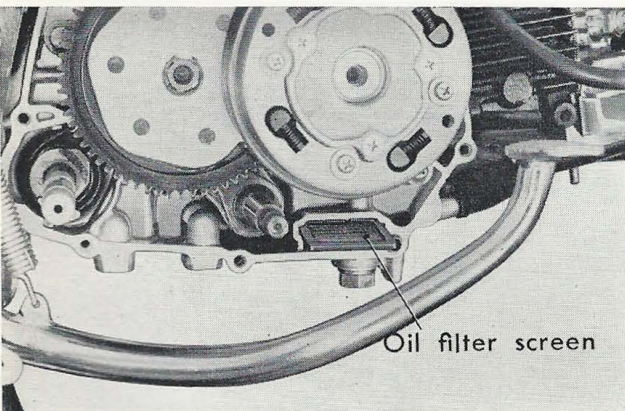

Figure 6-20. Cleaning oil filter screen
- (1) Remove the kick pedal. (for S50 and S65, remove the oil pipe).
- (2) Remove the right crankcase cover, pull out the oil screen and wash in gasoline. (Fig. 6.20)